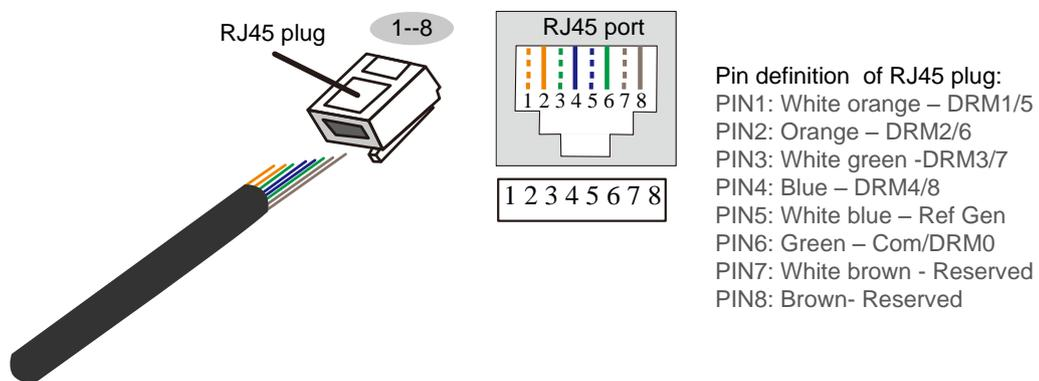

Figure4-20 Pin definition of RJ45 plug
- DRM port is connected with DRM control device. The pin definition of RJ45 plug is as shown in Figure4-20.
- Step 2 Draw DRM signal wire through the communication cover and crimp terminals according to Figure4-20, and insert it into DRM port. Connect the other end of DRM signal wire with DRM control device.